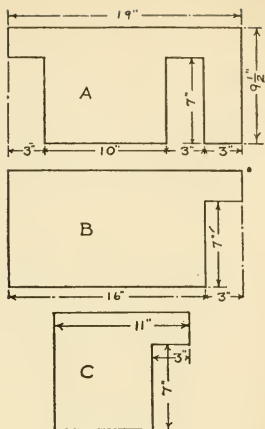

FIG. 68. FIRST FLOOR PARTITIONS
**Make the Partitions *A*, *B*, and *C***, the shape and size shown in Fig. 68, and nail them to the places marked out for them on the floor.